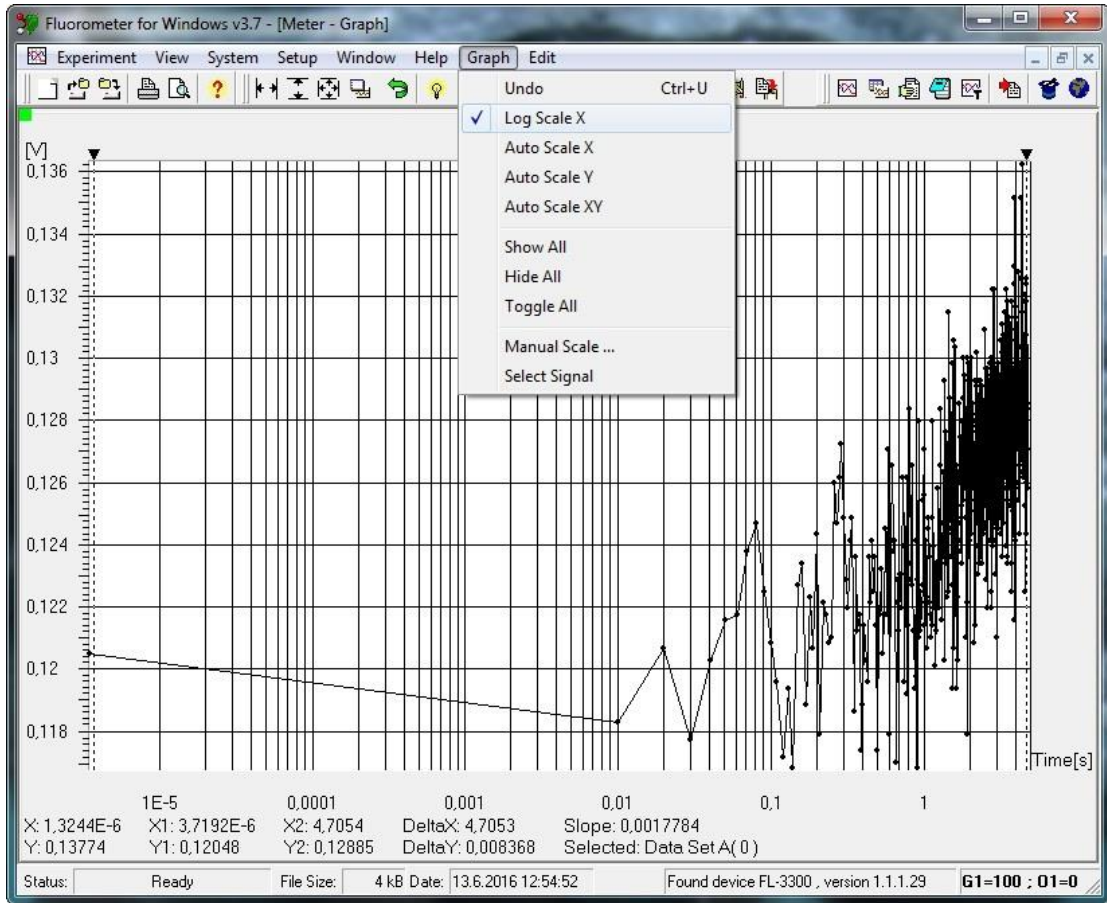

Fig. 23 Logarithmic scaling of X axis.
- Visualisation of Reoxidation kinetics and OJIP curve require **logarithmic scaling** of the time axis. Switching between logarithmic and non-logarithmic presentation is possible in menu Graph > Log Scale X (Fig. 23).